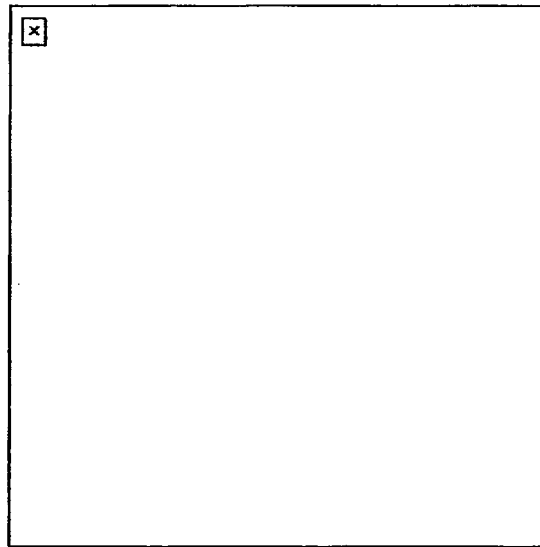

Figure 10. Deep target.
- (4) Deep target. Initially aim at the end of the target closest to the gun, unless another portion of the target is more critical or presents a greater threat (auto rifleman). Fire and search up the far end and back again repeatedly (Figure 10).